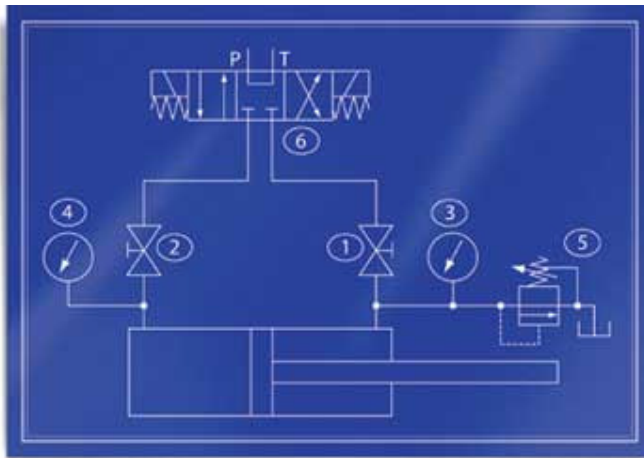

Figure 2. Cylinder Test Circuit
However, a midstroke bypass test can be conducted hydrostatically using the intensification effect. The necessary circuit is shown in Figure 2.
3. Connect ball valves (1) and (2), gauges (3) and (4), relief valve (5) and directional control valve (6) as shown in Figure 2.